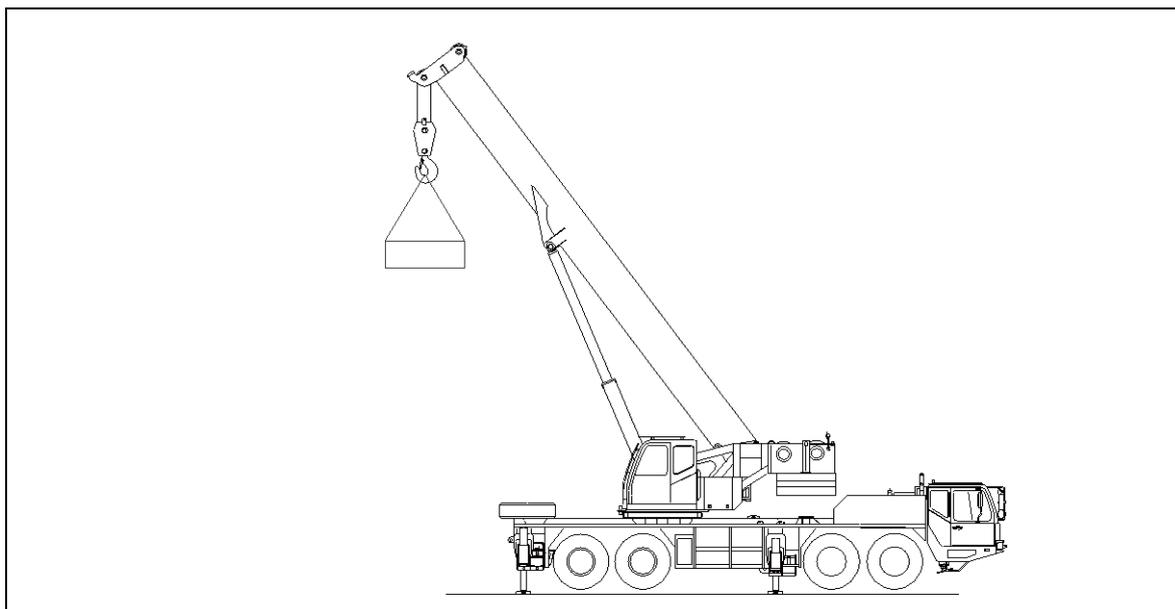

Figure 4-74 Main hoist gear operation
- b) The main hoist gear is working. Refer to Figure 4-74.